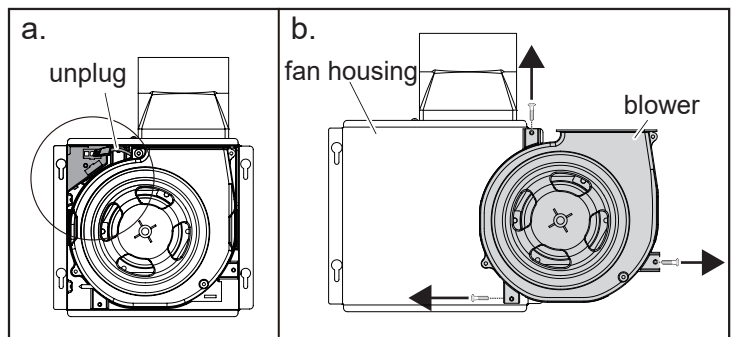

Fig 22
3. Unplug the connection from the wiring panel. (Fig 22)
4. Unscrew the screws which are holding the blower to the housing. (Fig 22)
5. Remove the blower from the fan housing. (Fig 22)